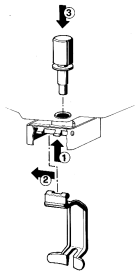

figure 6
- 3 - Gravity faucet: install the faucet handle (1-2) and the piston with its gasket (3) (see figure 6).